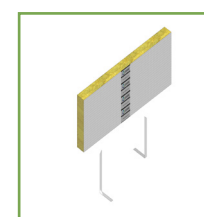

Fig 2. (Optional)
- Incorporate fixing brackets by impaling into the base of the barrier prior to installing. Two brackets are required per 1200mm unit length. (Fig 2.)